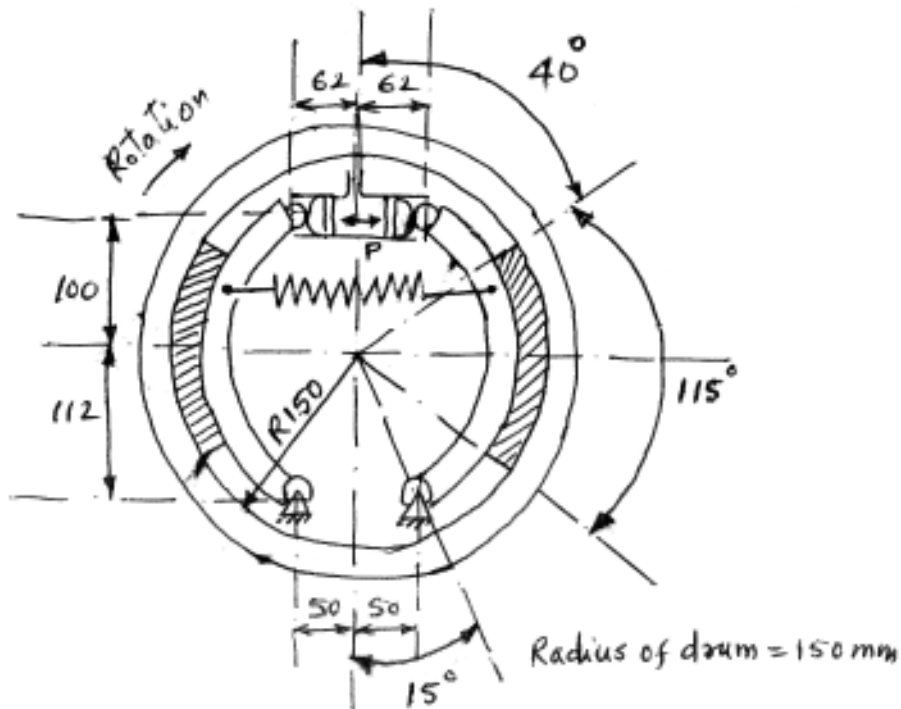

Figure 2 (Que. No. 4 b)
- b) An internal expanding shoe brake as shown in figure 2 is to be used for a four wheeled vehicle. It is actuated by a hydraulic cylinder that exerts the same force P on each shoe. The shoes are identical and have a face width of 40 mm asbestos friction linings. The maximum pressure intensity for asbestos lining is 0.8 MPa and the coefficient of friction between the linings and drum is 0.4. Find : 12